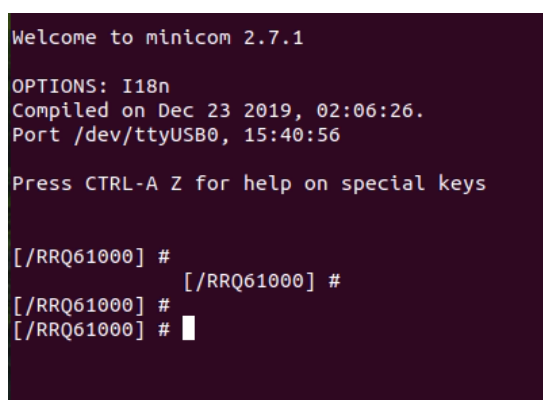

Figure 35. Successful configuration
13. To complete the configuration, press Enter. See Figure 35.